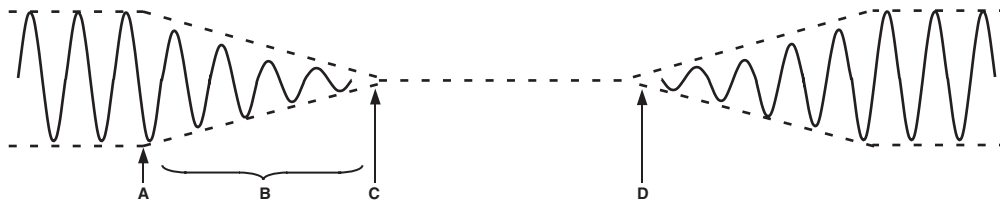

Figure 18. Recommended Sequences for Complete Parameter or Program RAM Upload Using Shutdown Mechanism
When writing large amounts of data to the program or parameter RAM, the processor core should be halted to prevent unpleasant noises from appearing at the audio output. Figure 18 shows a graphical representation of this mechanism's volume envelope. Points A–D are referenced in the following description. Bit 10 in serial Control Register 0 (processor shutdown bit) will shut down the processor core. When the processor shutdown bit is asserted (A), an automatic volume ramp-down sequence (B) lasting from 10 ms–20 ms will occur, followed by a shutdown of the core. This method of shutting down the core prevents pops